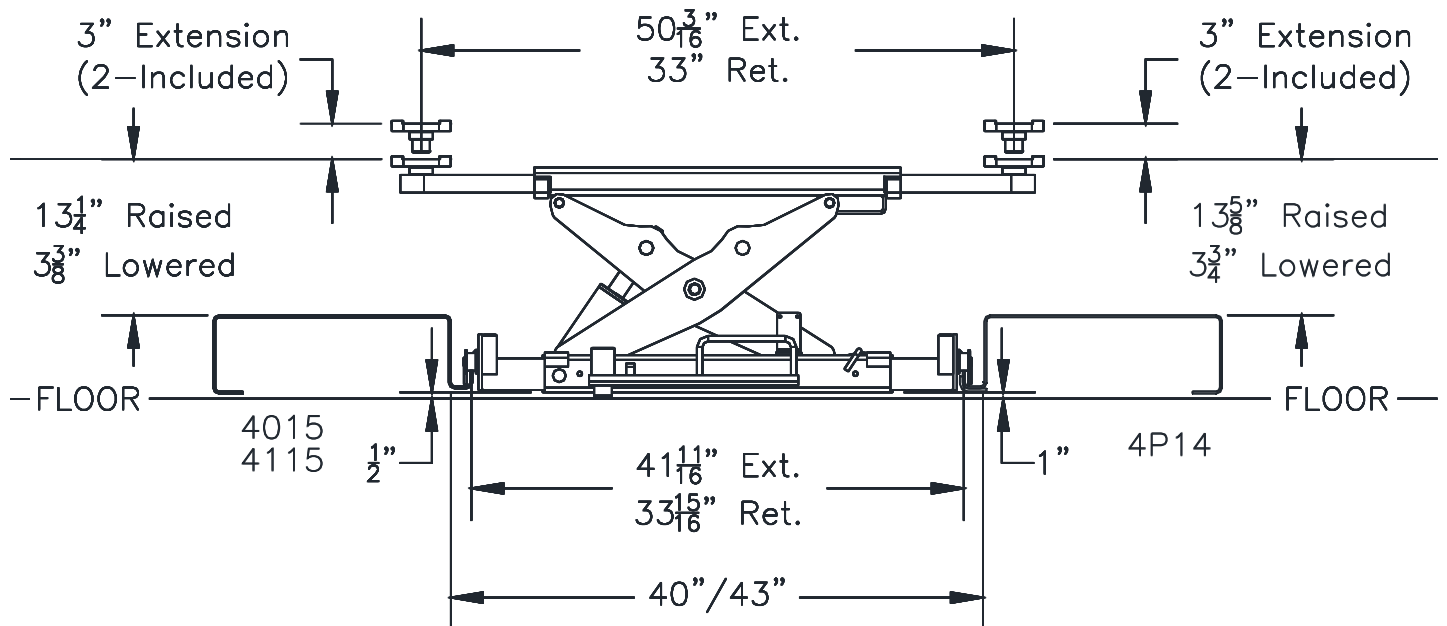

Fig. 1
- 02/06/2020- UPDATED FIG 1 TO INCLUDE 4115 MODELS